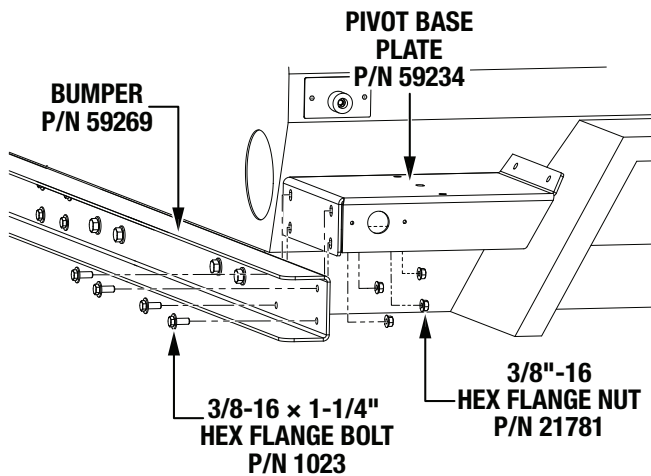

Figure 14. Pivot Base Plate Installation
1. Secure the pivot base plate (P/N 59234) to the end of the bumper (P/N 59269) with four 3/8-16 x 1-1/4" hex flange bolts (P/N 1023) and four 3/8"-16 hex flange nuts (P/N 21781). See Figure 14.